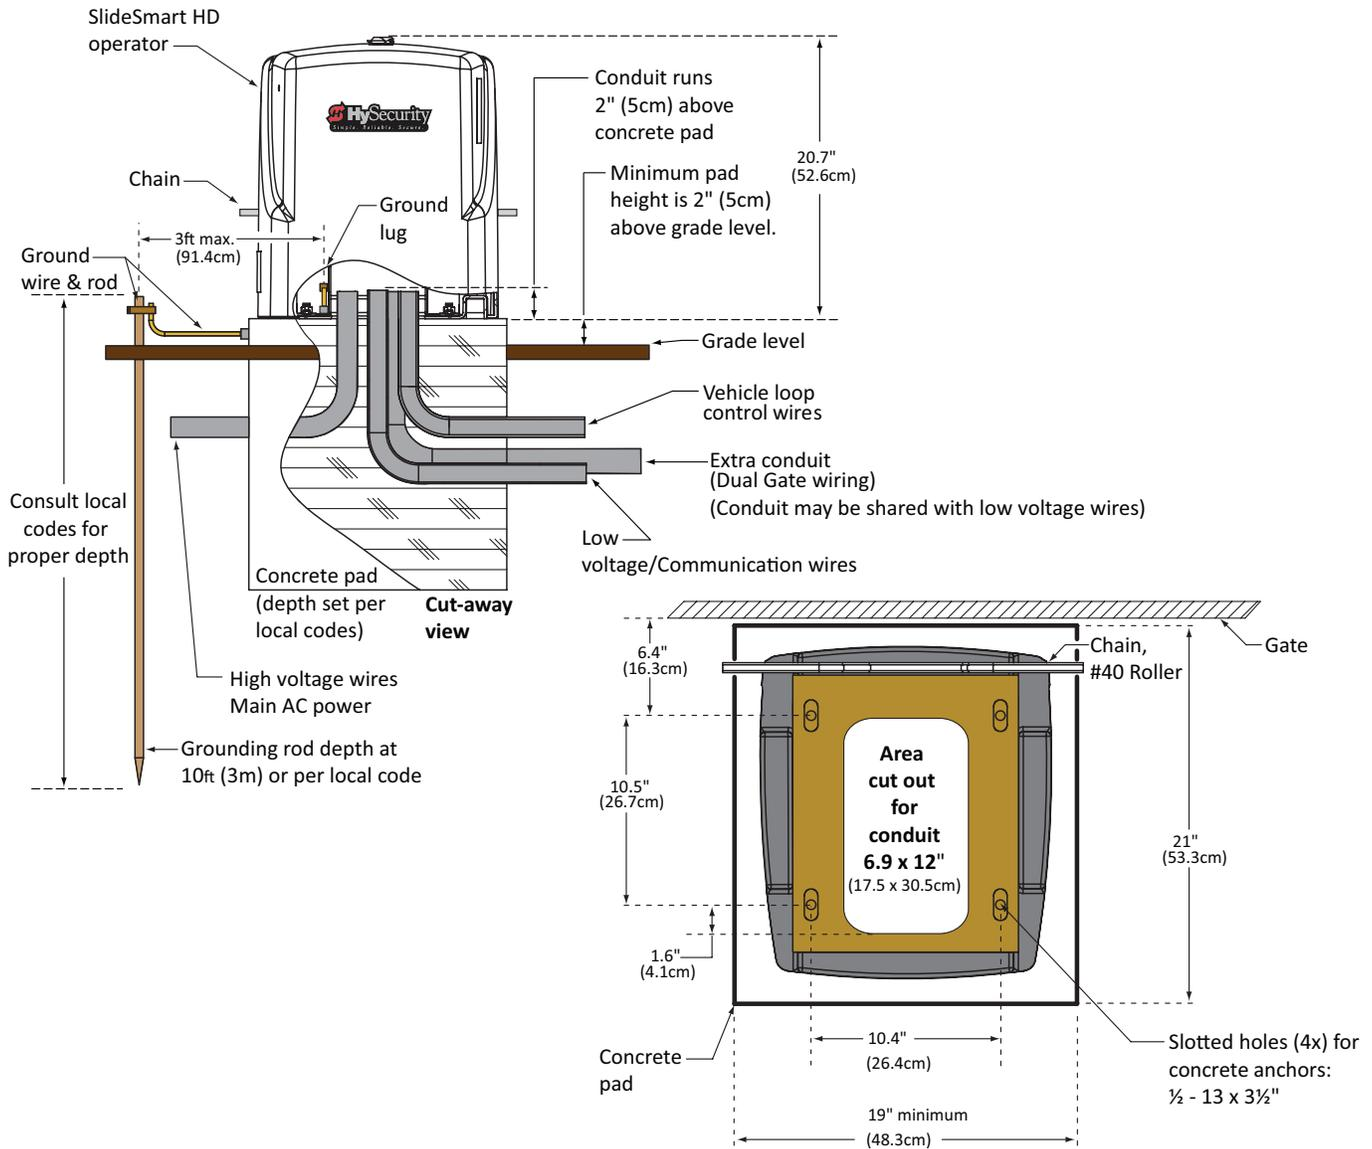

Figure 2. Conduit View
1. Follow the local building codes to identify the frost line and determine the required depth of the concrete pad. HySecurity recommends a minimum 16-inch depth with a minimum 2-inch extension. Refer to Figure 2.
2. Before pouring the pad, consider conduit placement so it fits within the confines of the 6.9 x 12-inch cutout in the SlideSmart as shown in Figure 2. Run separate conduits for:
3. Extend conduit height 2-inches (5cm) above the pad (4-inches (9cm) above ground level). Make sure the concrete forms are square with the gate and the pad is level. The operator footprint, with covers, is approximately an 18-inch square (4.7cm). See Figure 2 for the minimum pad dimensions.